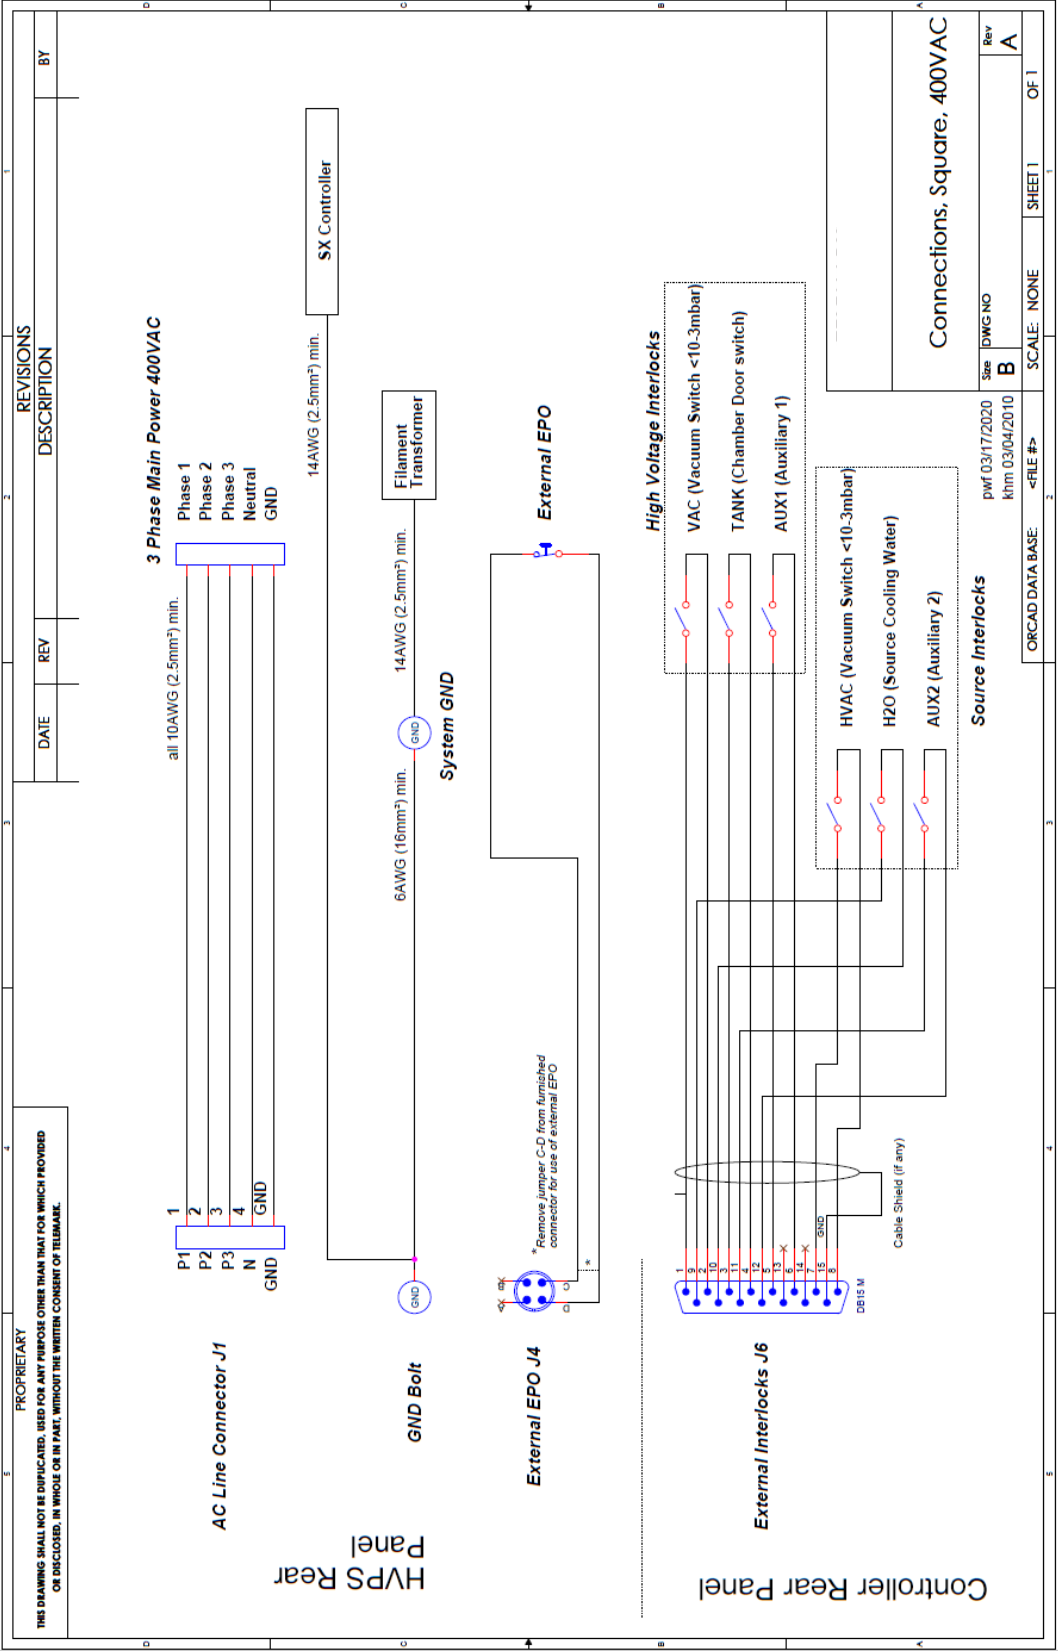

Figure 9-4, Connections SVA series 400VAC Square Version
- Figure 9-4 Square Connector, 208VAC Connections